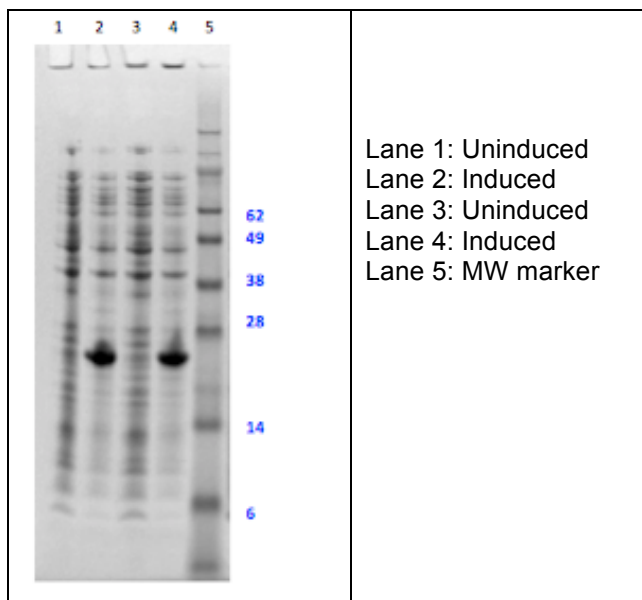

Figure 1. SDS-PAGE of expression of H6H3C protease in Rosetta (DE3) cells shows a strong induced protein band.
7. Check the expression by SDS-PAGE before proceeding with purification. Protein has a molecular weight of ~22 kDa. See Figure 1.
9. Check the expression by SDS-PAGE before proceeding with purification. See Figure 1.